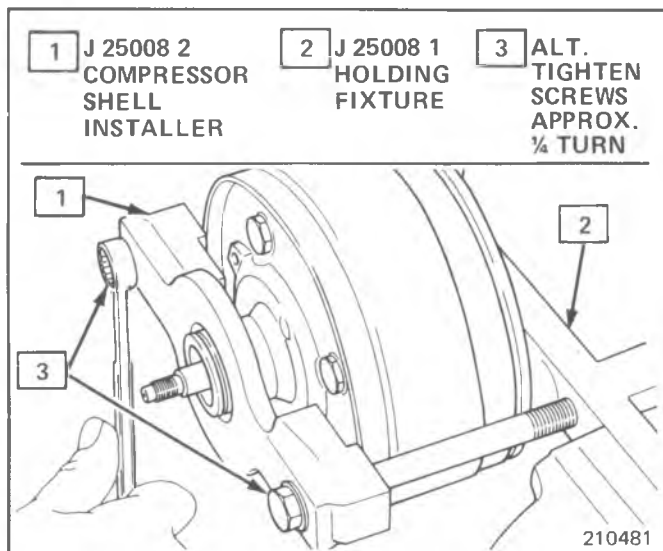

Fig. 1C1-42 Installing Shell
6. Push the compressor shell as close to the O-ring, Fig. 1C1-42, as possible by hand and check for equal alignment of the shell around the cylinder. Tighten the Fixture screws finger tight.
7. Alternately tighten each bolt approximately 1/4 turn to push the compressor Shell over the O-rings and back against the shell stop flange at the rear of the compressor cylinder. If one (1) screw appears to require more force to turn than the other, immediately turn the other screw to bring the screw threading sequence in-step or the shell will be cocked and made more difficult to install. Normal installation does not
9. Re-install Clutch Rotor and Bearing Asm., Clutch Coil and Pulley Rim as an assembly with Installer J 26271 (Fig. 1C1-11), and the Clutch Plate and Hub Assembly with Installer J 9480-01 (Fig. 1C1-10).